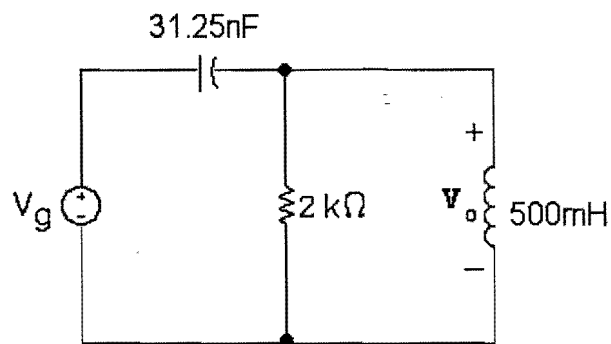

Figure 8
- c. The circuit in Figure 8 is operating in the sinusoidal steady state. Find [10 marks]